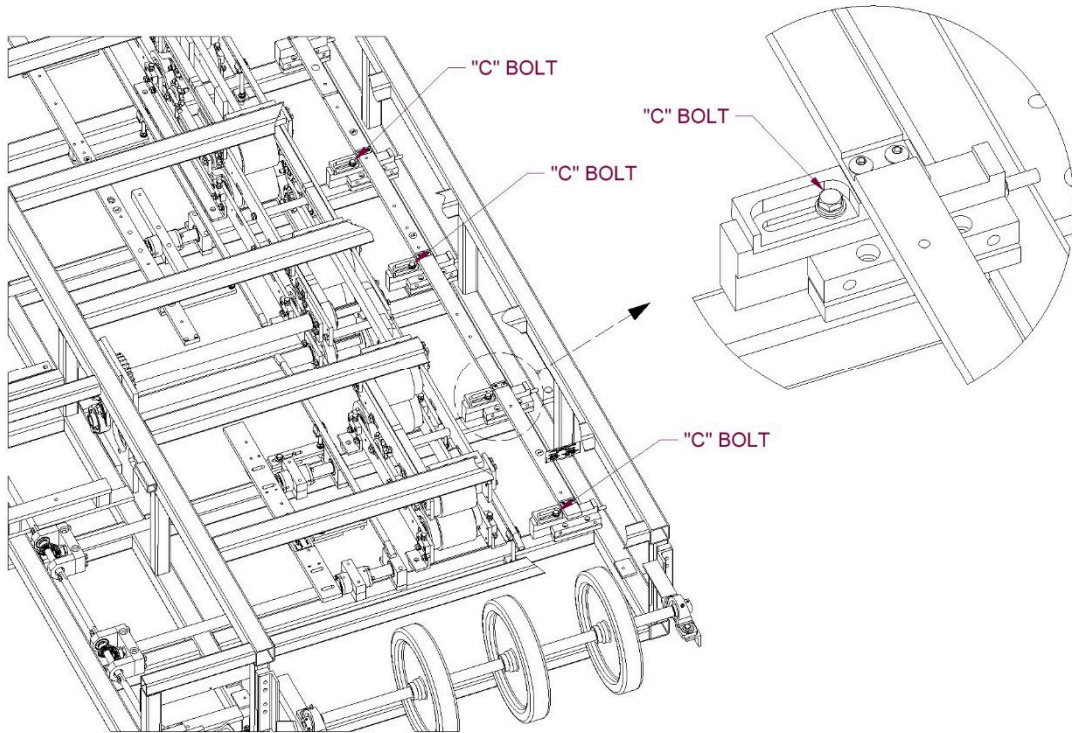

Figure 64: April 2009 and later
5. Loosen bolt "C" on the first 4 Slide Block assemblies (Figure 64).
6. Once all 4 bolts are loose, slide the Right Side Fixed Mount Rail #1 to the correct position (Figure 65), either "inboard" or "outboard". Make sure that it is fully in position and then tighten the "C" bolts (Figure 64).